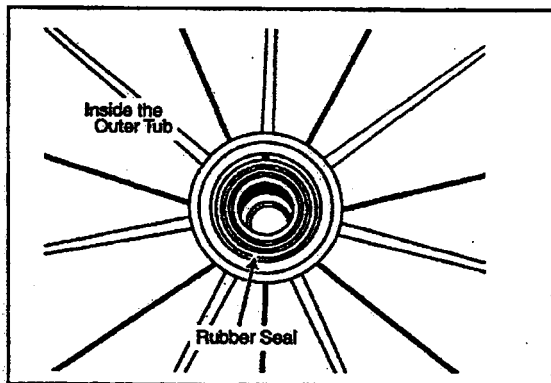

Figure 2-44
7. Remove the shaft seal (*Figure 2-44*).
4. Reach into the inside of the outer tub bearing area and remove the rubber seal. Discard both the steel seal washer and the rubber seal (*Figure 2-44*).